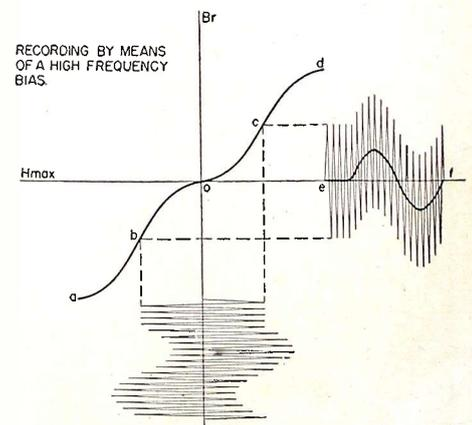

Fig. 5. Remnant induction as a function of the audio frequency signal.
3. The remnant induction within the tape, (the finished record) becomes the difference between the positive and negative half cycles of the bias wave. This difference is a function of the audio signal and is shown graphically as curve *e-f* in Fig. 5. Proper control of bias and of audio signal level results in a cross-over to the tape in compliance with the linear portions (*b* and *c*) of the curve *a-d* of Fig. 5. The point where curve *a-d* cuts the vertical axis, (where H is zero) determines the final residual induction Br as shown in the figure.
It is evident that the final signal transfer is not highly efficient, yet, this method of recording is linear enough to avoid undue distortion. Furthermore, where the audio signal is zero at (*e*), a low noise level is derived since at that point the tape is almost completely demagnetized. The inductive output from the recorder head, and subsequently from the tape, is shown to be a line drawn through the zero points of each oscillation of the bias frequency. This is shown as the curve *e-f* of Fig. 5.